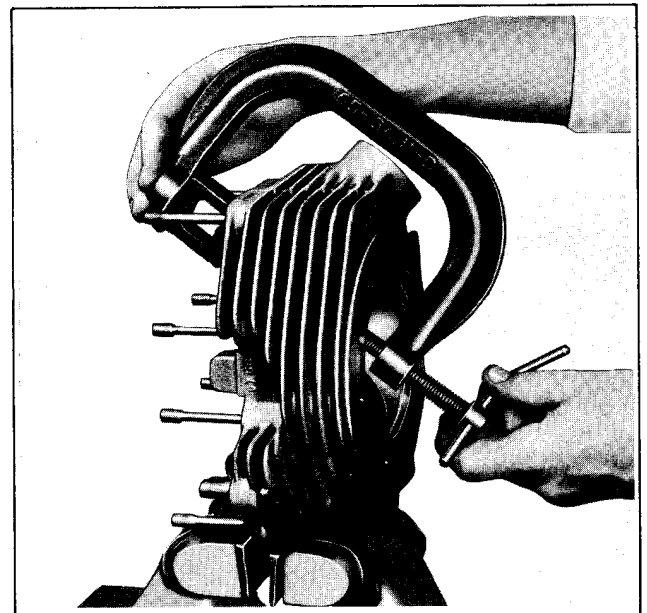

Figure 3-4. Compressing Valve Spring
Compress valve springs using Valve Spring Compressor, Part No. 96600-36, (see Figure 3-91) and remove valve keys (23) from ends of valve stems as shown in Figure 3-4. Mark keys to identify them with their respective valves. Remove valve spring collars (24 and 27), springs (25 and 26) and valves (28). It is customary to reassemble valves in same cylinder head from which they were removed; therefore, before removing, mark them in some manner to identify them with front and rear cylinder head.